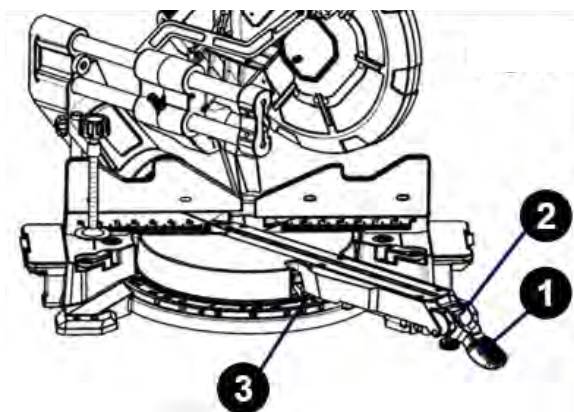

Fig. 12: Setting the miter angle
Unlock the table by lifting the mitre locking handle (item 1, fig. 12).
- Step 2:** Press the miter lock knob (pos. 2, fig. 12) and turn the table to the right or left using the miter handle.
- Step 3:** When the table is in the desired position position indicated on the miter scale (Item 3, Fig. 12), push the locking handle down to lock the saw table. The table is now locked at the desired angle.